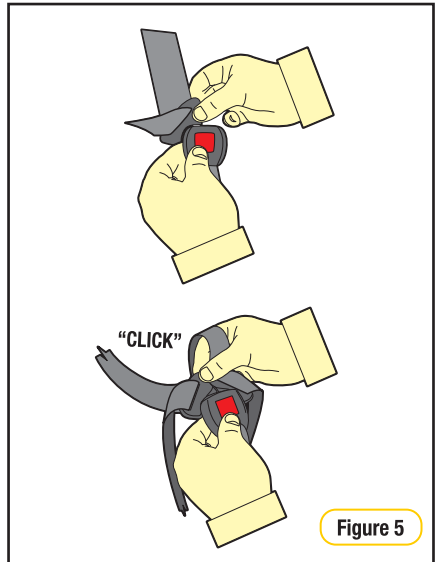

Figure 5
Step 4: Insert either tongue into the buckle followed by the other tongue until a **“CLICK”** is heard. Should the second tongue not insert, press the red button and reinsert the tongues. Ensure secure engagement by pulling the harness strap (refer Figure 5).